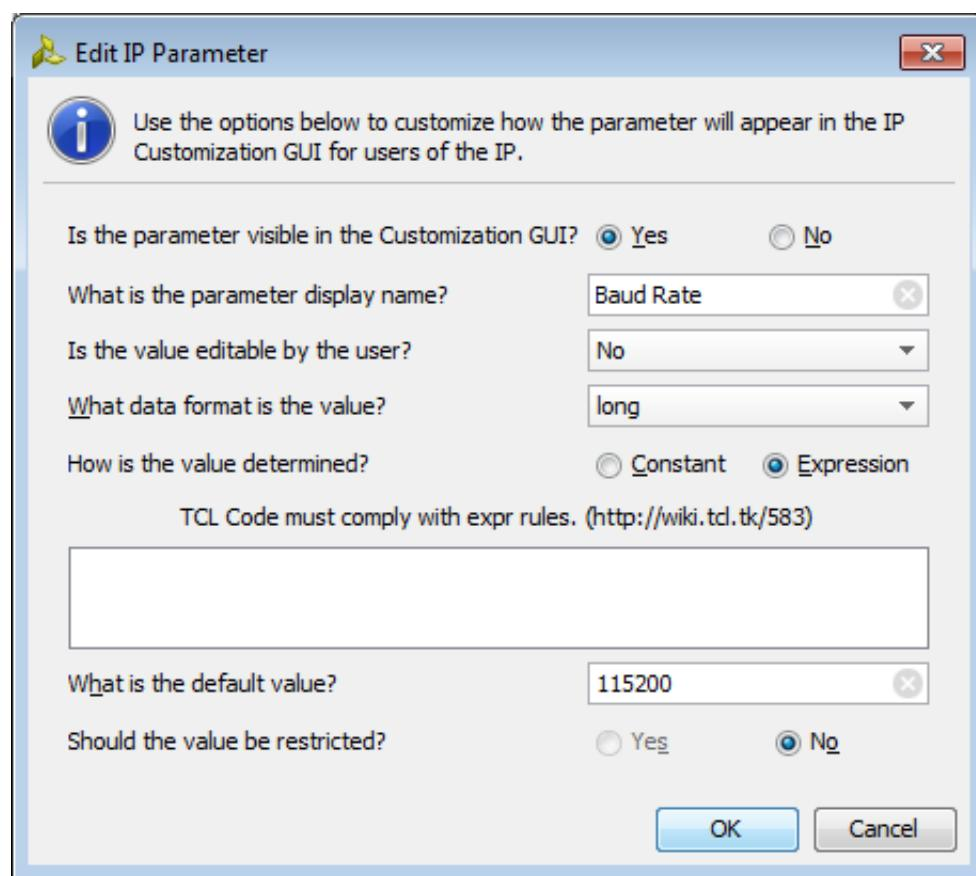

Figure 8-36: Edit IP Parameter with Expression option
- When you select Expression, the dialog box adds another text box for the Tcl code required to evaluate the value, as shown in Figure 8-36, page 103.